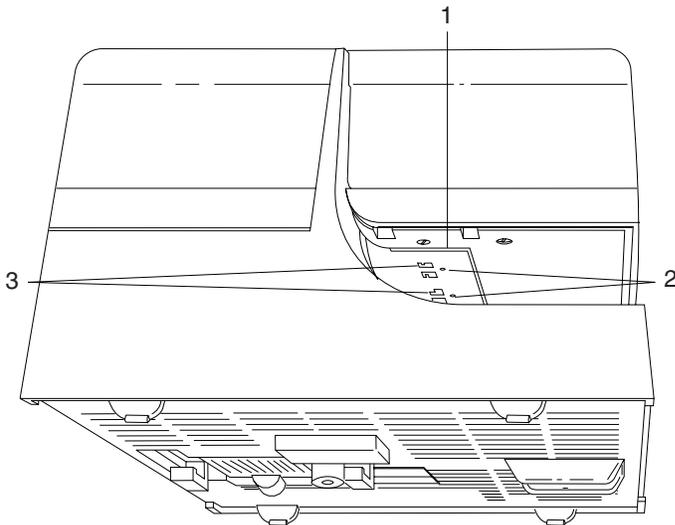

Figure E-1. Part 1. Removing the Document Insert Paper Guide
- 1 Set the printer as shown in Figure E-1
- 3 Gaining access through the document insert opening, remove the document insert paper guide (1).
- 4 Lift the guide off the locating pads (2).
- 5 Move the guide toward the back of the printer until the holding tabs on the guide can be pulled out of the openings (3) in the frame.